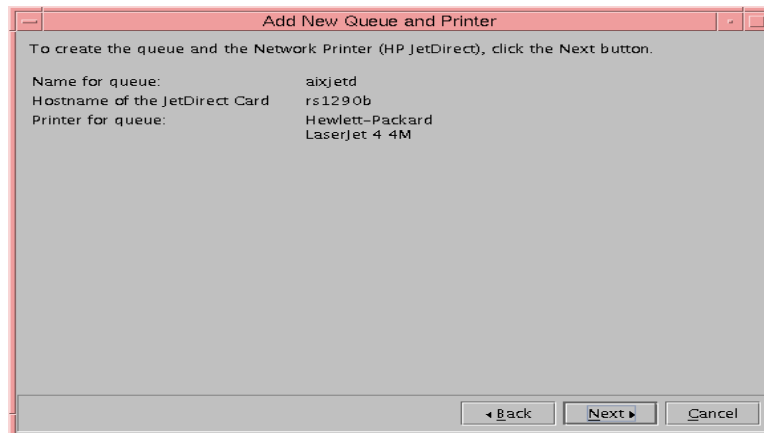

Figure 80. JetDirect-attached verification panel
9. We verified the information on the panel in Figure 80 and clicked **Next**.